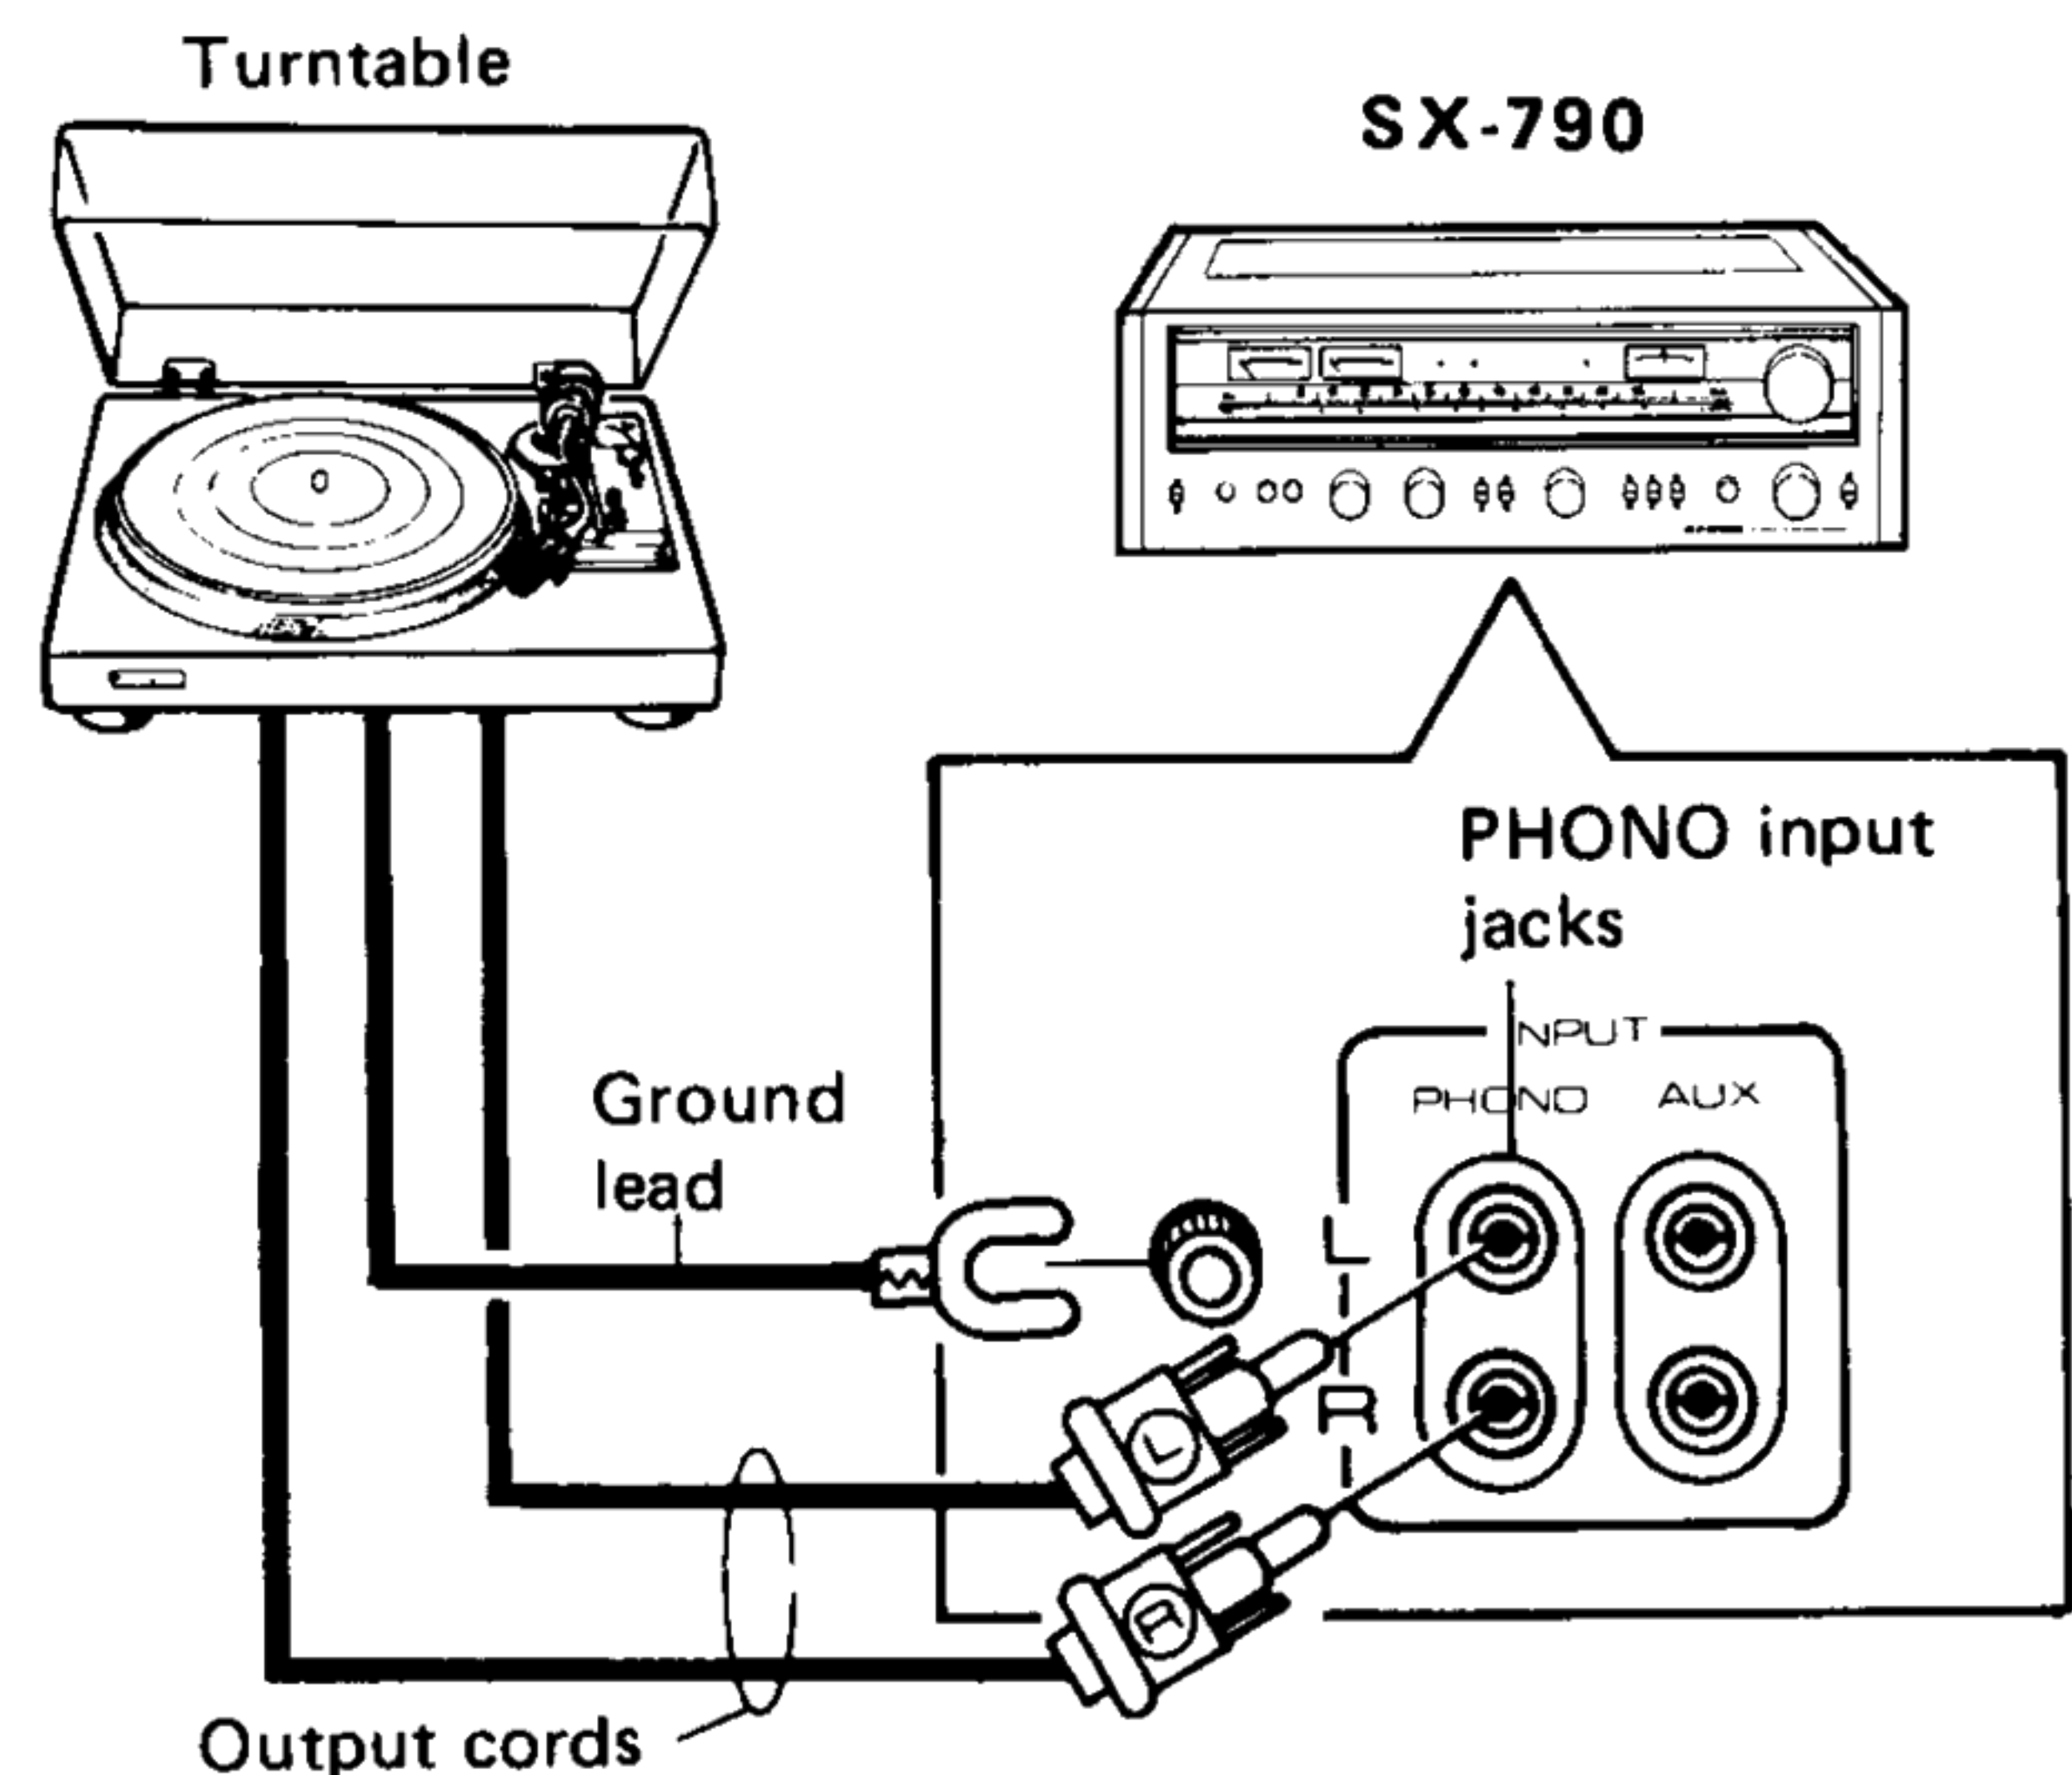

Fig. 2
Connect the output cords of a turntable to the PHONO input jacks. Be sure to connect left (L) channel and right (R) channel correctly. Connect the ground lead of the turntable to the GND terminal on the receiver (Fig. 2).